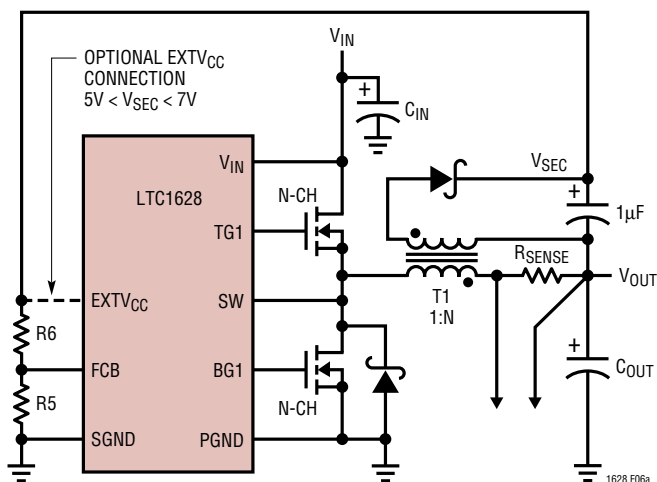
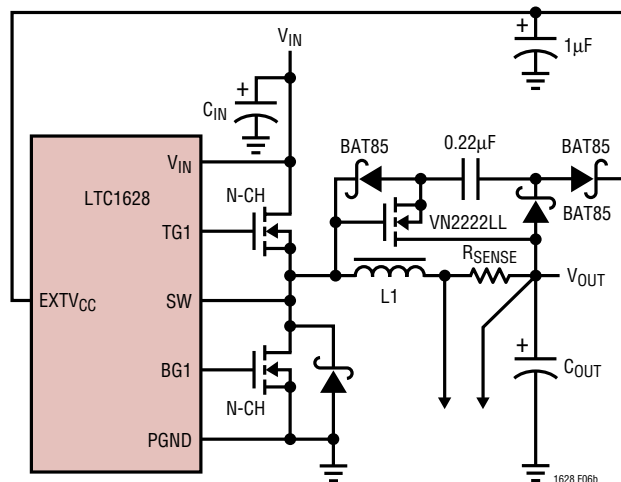

Figure 6a. Secondary Output Loop &  $EXTV_{CC}$  Connection
Figure 6b. Capacitive Charge Pump for  $EXTV_{CC}$
4.  $EXTV_{CC}$  Connected to an Output-Derived Boost Network. For 3.3V and other low voltage regulators, efficiency gains can still be realized by connecting  $EXTV_{CC}$  to an output-derived voltage that has been boosted to greater than 4.7V. This can be done with either the inductive boost winding as shown in Figure 6a or the capacitive charge pump shown in Figure 6b. The charge pump has the advantage of simple magnetics.
The secondary output voltage  $V_{SEC}$  is normally set as shown in Figure 6a by the turns ratio  $N$  of the transformer: